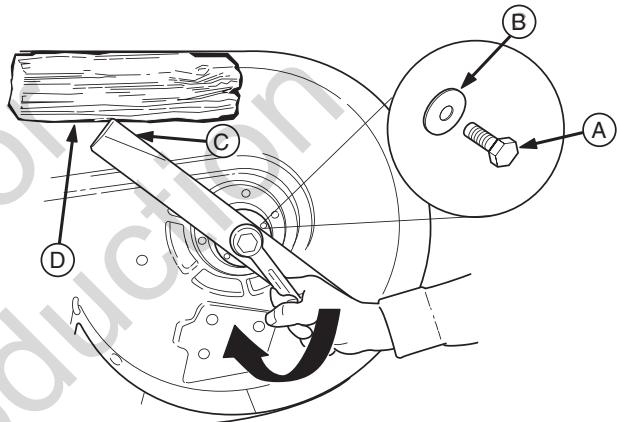

Figure 23. Blade Installation
3. Remove the capscrew (A, Figure 23), spring washer (B), and blade.
7. Reinstall the blade with the lift wings (C, Figure 23) pointing up toward the mower deck as shown.
8. Reinstall the spring washer (B) and capscrew (A). Use a wooden block (D) to prevent blade rotation while tightening the capscrew (A) to 45-55 ft-lbs (61-75 Nm). Turn capscrew clockwise to tighten.